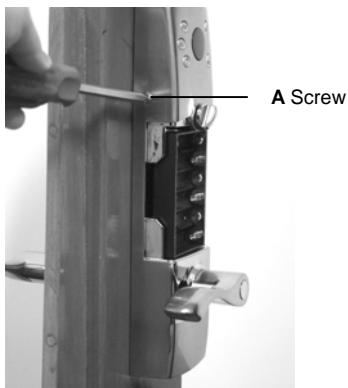

Fig 12
5. Fasten Inside Section in place by replacing the two small **A Screws** on the side of the unit. (Fig. 12)